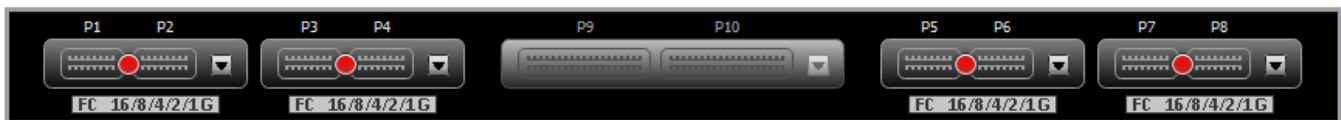

Figure 6.3: Analyzer Port Configurations
2. Select **Analyzer**, then click the radio button for the **Speed** you want (Figure 6.3).